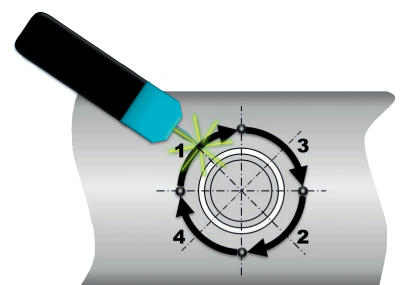

Fig. 3: Weld sequence
4. For a weld that is as free from distortion as possible, carry out the weld sequence so that the quadrants are welded alternately (fig. 3).